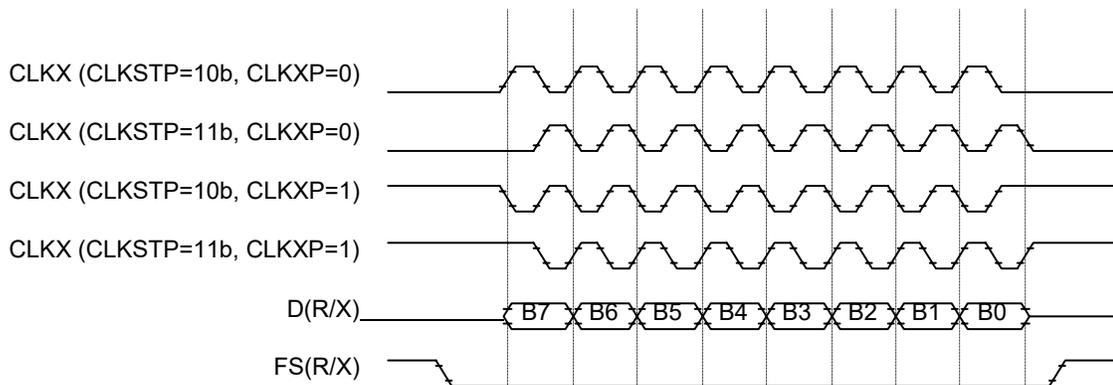

Figure 7. Clock Stop Mode Options
2. Program the McBSP configuration registers XCR, RCR, SRGR, PCR, and SPCR for all parameters as required. Write the desired value into the CLKSTP bit-fields in the SPCR. Figure 7 shows the various CLKSTP modes that are supported by the McBSP.
- c. If the enhanced DMA (EDMA) is used to perform data transfers, the channels associated to the McBSP transmit and receive synchronization events should first be configured with the appropriate priority levels, element size, src/dst addresses, address update modes, transfer complete code, transfer complete interrupt enable, source and destination dimensions, and any other feature suitable for the application in the PaRAM parameter fields. The events are latched in the event register (ER), even in the events are disabled. Enabling the corresponding event bit in the event enable register (EER) starts the data transfer by setting this bit to a '1'. Then, pull the McBSP out of reset. For details on EDMA initialization for servicing the McBSP, refer to *TMS320C6000 McBSP Initialization* (SPRA488) and *TMS320C6000 Enhanced DMA: Example Applications* (SPRA636).